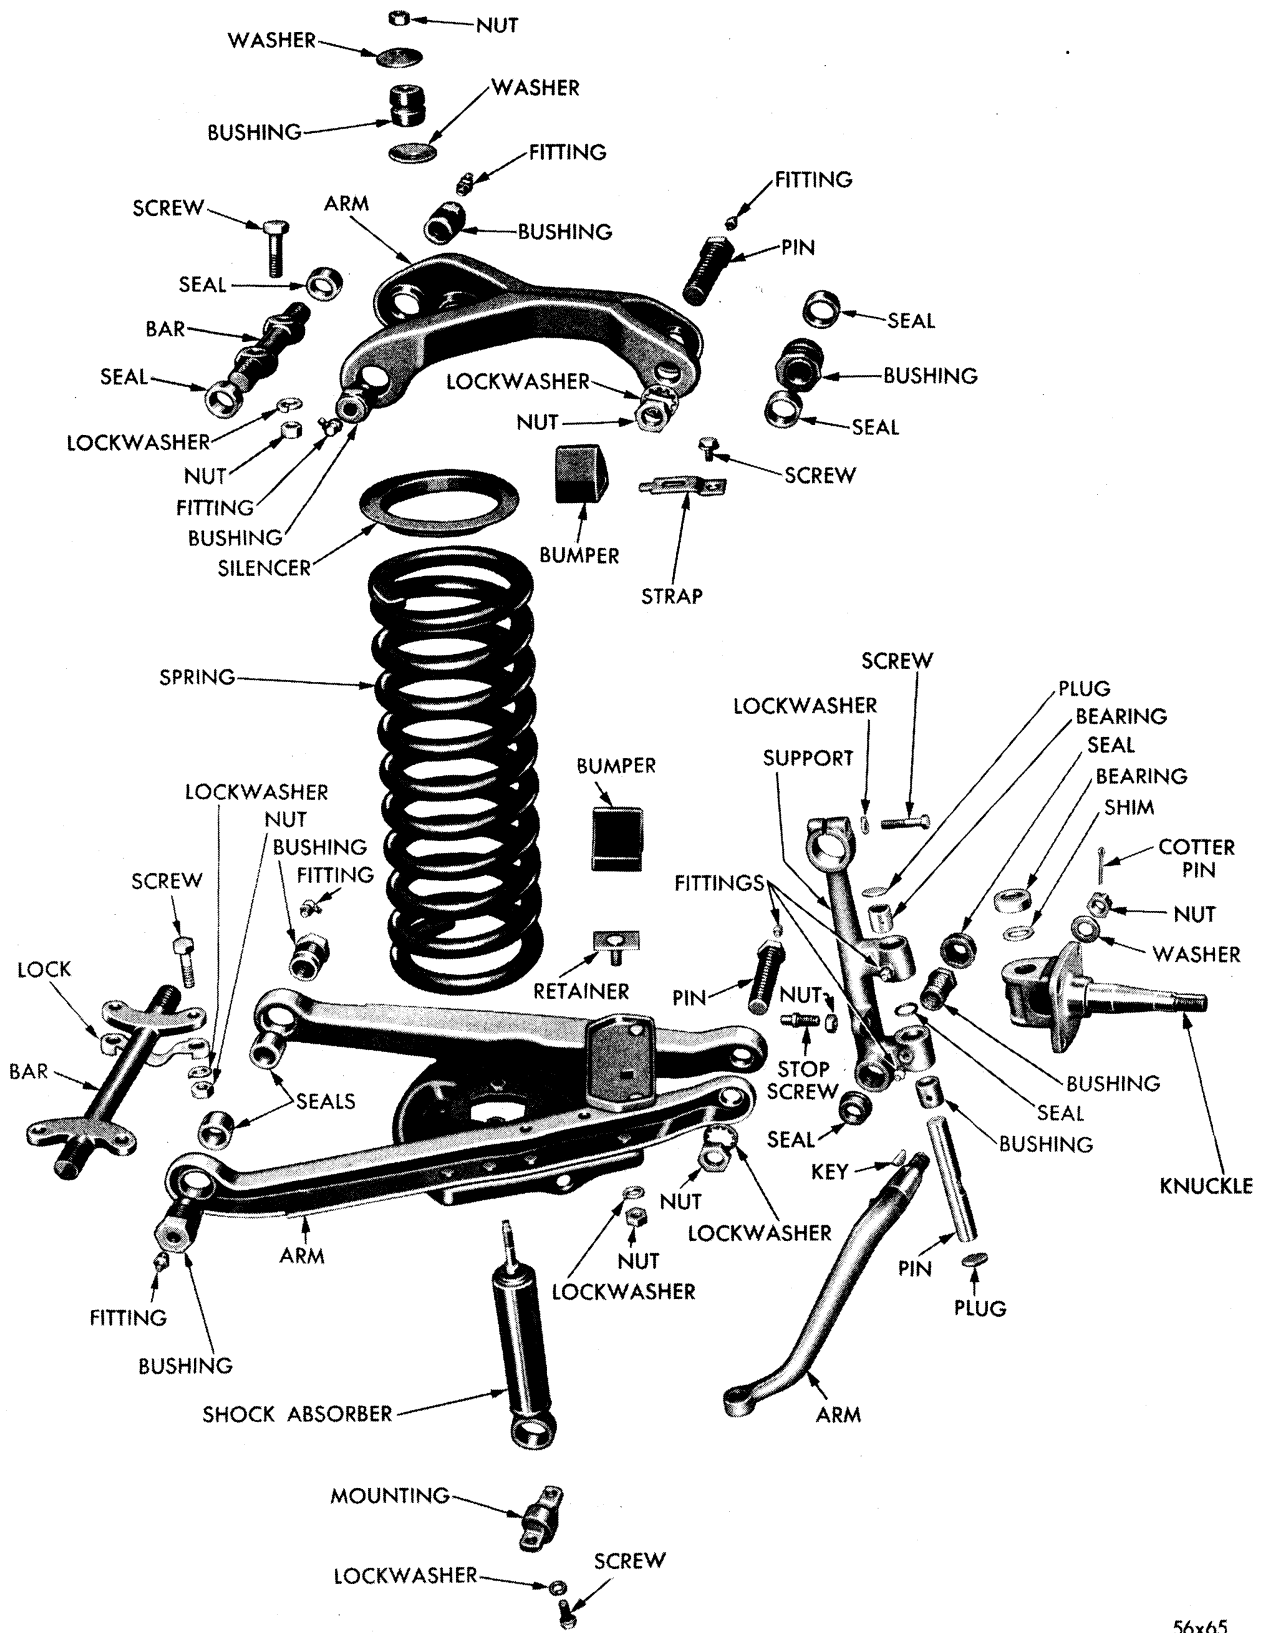
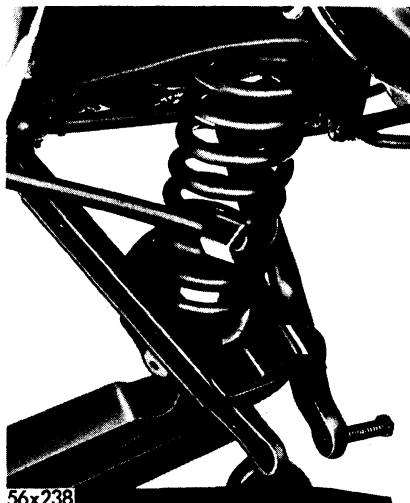

Fig. 1—Front Wheel Suspension
Fig. 7—Removing Lower Control Arm
Figure 1 shows the disassembled view of the front suspension system when replacing suspension parts.
2. REMOVAL AND DISASSEMBLY OF UPPER CONTROL ARM (REFER TO FIG. 1 AND 4)
Remove dirt or grease around the shock absorber upper mounting area. Remove shock absorber piston rod attaching nut. Raise front of car and place supports under frame side members behind suspension unit. Remove front wheel and hub and drum assembly. Remove lower attaching nuts and remove shock absorber. Remove sway eliminator retainer clamp. Place jack under center of lower control arm spring seat, as shown in Figure 7. Loosen lower support to control arm pin nut. (See Fig. 1). Raise jack to relieve pressure on lower control arm. Remove knuckle support arm pin and seals. Lower jack slowly and remove coil spring, as shown in Figure 8. Remove pivot bar to frame attaching bolts, as shown in Figure 6, and remove lower support arm.
Place jack under lower control arm and raise until lower control arm indexes with support arm, as shown in Figure 7. Align lower control arm and steering knuckle support and install pin, washer and nut. Tighten to 100 foot-pounds torque. Install front shock absorber as described in Paragraph 1. Install sway bar, hub and drum assembly and wheel. Lower car.
8. REMOVAL AND INSTALLATION OF FRONT COIL SPRING (FIGS. 7 AND 8)